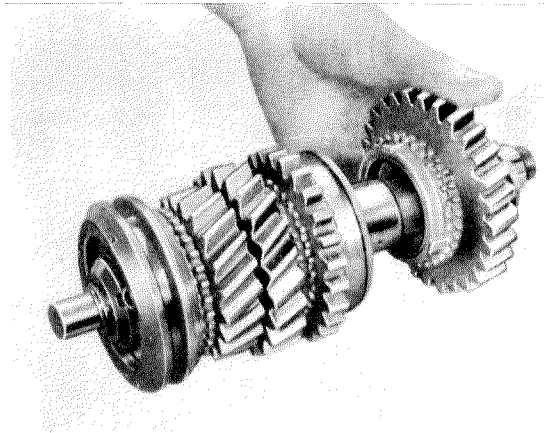

Fig. 26 — 4/37
72. Remove the 1st and 2nd speed synchronizing unit (which is also the reverse idling gear), synchronizing ring, thrust washer, and key (Fig. 26 — 4/38).